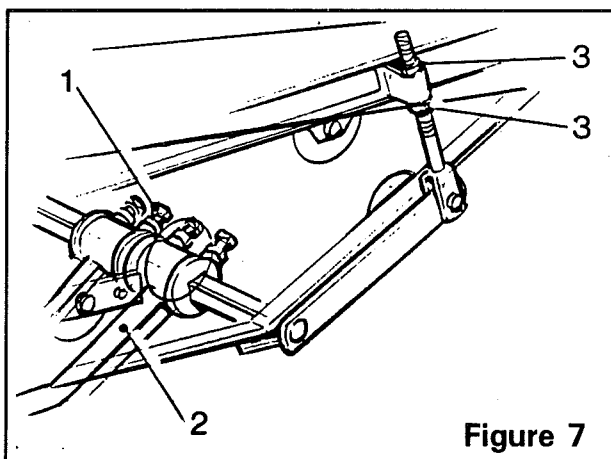

Figure 7
The digging shares are individually adjustable for 28" (70cm) to 36" (90cm) row spacings, with single or triple blade options. To adjust the shares for different row spacings, loosen the securing bolts (item 1, figure 7) and slide the share arms (item
**2, figure 7)** along the mounting bar. Once in position, ensure that all of the securing bolts are retightened.
The digging angle of the shares can be adjusted by turning the adjusting nuts (**item 3, figure 7)** located on each side of the harvester. Ensure that both sides are adjusted equally.